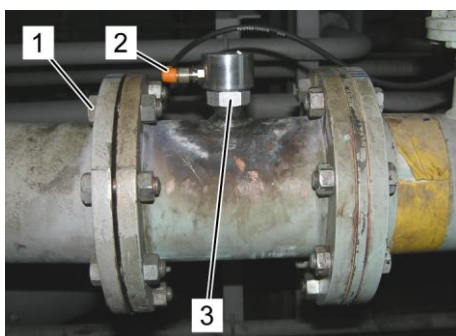

Fig. 46: Sensor mounted
4. Install the water-in-oil sensor according to Fig. 46.